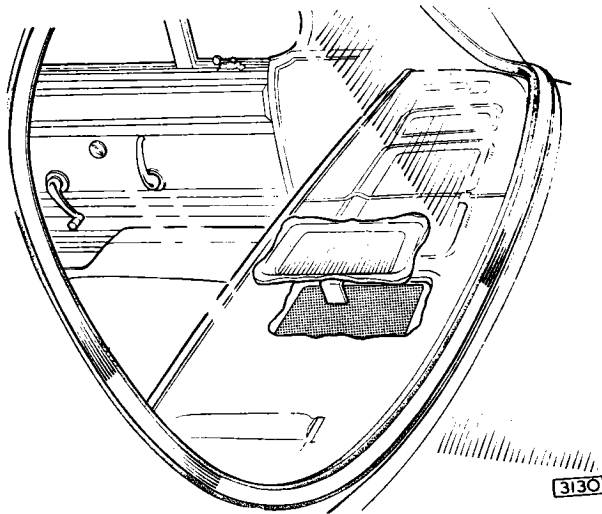

Fig. 80 Cut away "Dedshete" to expose depression in parcel tray.
8. Cut away painted "DEDSHETE" in area of left-hand depression in metal parcel shelf to expose metal cover plate. See Fig. 80.